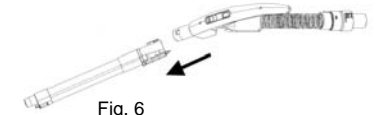

Fig. 6
1. Holding the telescopic tube insert it into the Telescopic tube receptacle that is on the flexible hose handle. Push the telescopic tube in until it is locked together. (Fig 6)